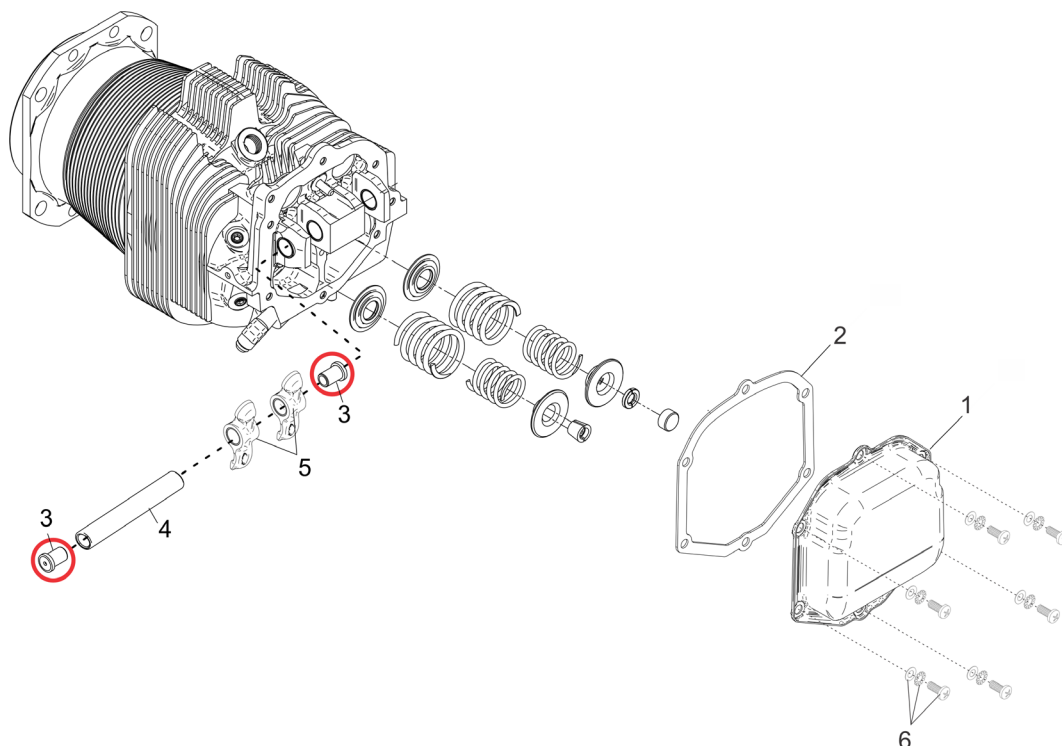

Figure 1.
3. Remove the rocker cover (Figure 1) (1) and gasket (2) from the cylinder assembly. Discard the gasket (2).